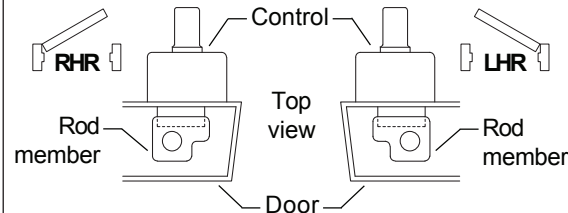

Figure 1. Rod member position for door handing.
1. Open door and release top latch bolt as shown (Figure 1).
5. Rotate top adjusting screw clockwise until top latch bolt is fully extended (Figure 1).
- A. Slide rod member onto top rod (see Figure 1).